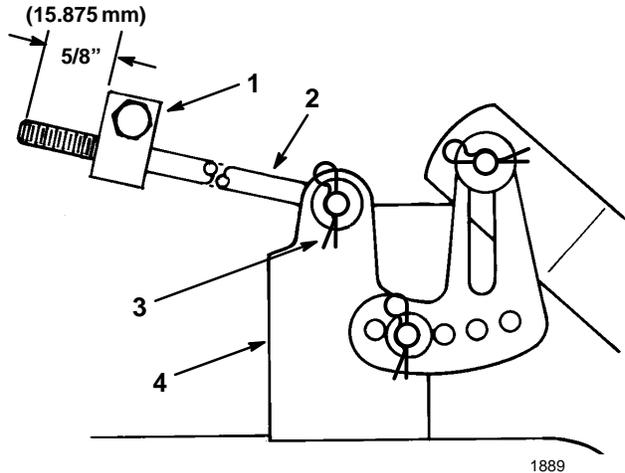

Figure 50
5. Measure the length of the rod extending out the front of the adjusting block on the sides of the chassis (Fig. 50). If the rod length is not 5/8” (15.9 mm), remove the hair pin cotter and washer from the end of the rod (Fig. 50), and turn the rod until the 5/8” (15.9 mm) dimension is obtained. Then install the end of the rod into the hole in the mower mount and secure in place with washer and hair pin cotter. Repeat this procedure on the opposite side of the mower.